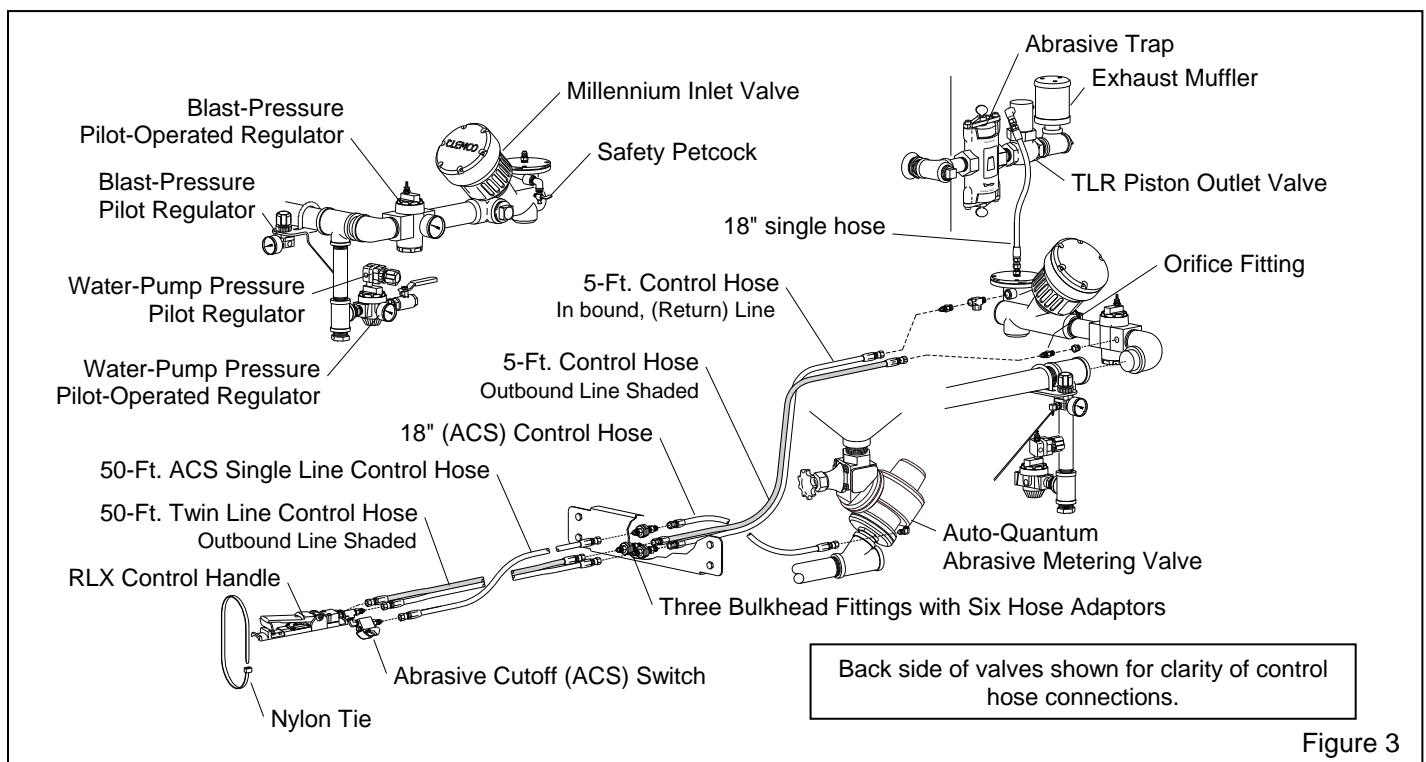

Figure 3
1.6.2 Remote controls with abrasive cut-off (ACS) Components are shown in Figure 3
1.6.2.3 The components of the remote control system are shown in Figure 3. They include the Millennium inlet valve, piston-style outlet valve, RLX control handle, 50-ft. twinline and single-line control hoses and all interconnecting hoses and fittings.
1.6.2.4 Clemco remote controls operate pneumatically on return air. Control air travels from the orifice fitting located on the inlet end of the blast-pressure regulator, down the outbound line (shown shaded in Figure 3) and escapes through the opening located under the RLX control handle lever. The normally-closed inlet valve remains closed, and the normally-open outlet valve remains open. As long as air escapes through the handle's opening, the remote control system remains dormant.